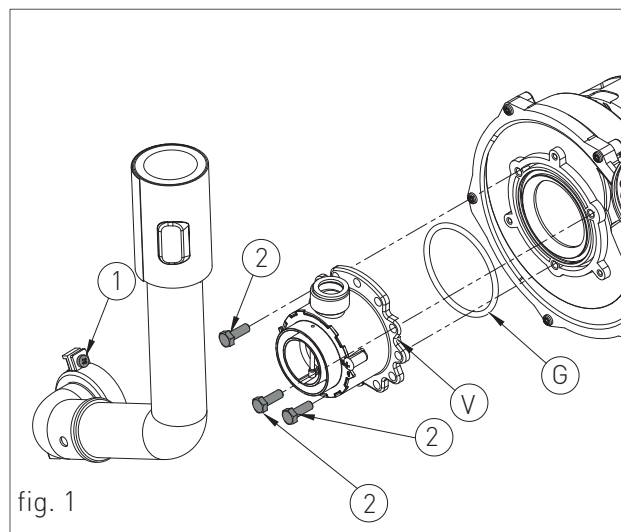
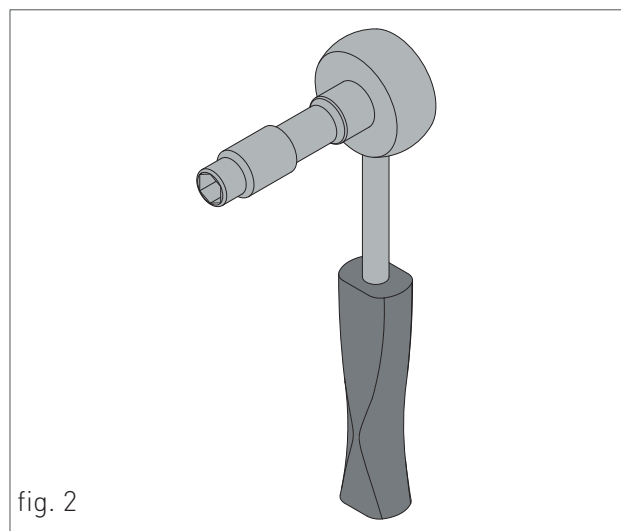

fig. 1
fig. 2
- › loosen the two screws '1' (fig.1) from the fastening bush, and remove the air suction tube;
- › unscrew the three fastening screws '2' (fig.1) of the venturi 'V' (fig.1) using a 10 key, as shown in figure 2;
- › remount the components following the demounting operations in reverse making sure that gasket 'G' is re-assembled as shown in fig.1;
10. FLAME PRESENT SIGNALLING / IT ALSO INDICATES, ON 3 PERCENTAGE LEVELS, THE MODULATING POWER LEVEL OF THE BOILER (fig.2)